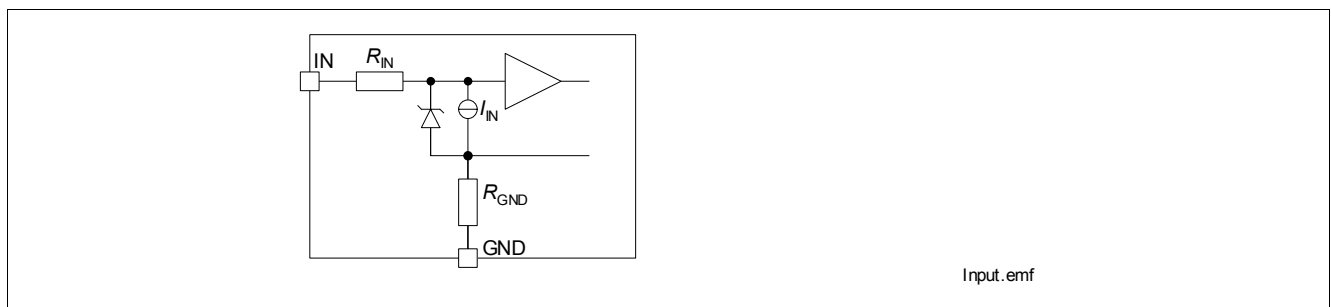

Figure 5 Input Circuit (IN1 and IN2)
**Figure 5** shows the input circuit of the BTS5235-2G. There is an integrated input resistor that makes external components obsolete. The current sink to ground ensures that the device switches off in case of open input pin. The zener diode protects the input circuit against ESD pulses.